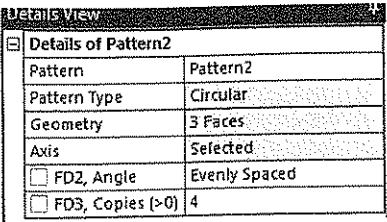

Figure 5-28 The Details View window displaying parameters for creating the circular pattern
11. Enter **4** in the **FD3, Copies (>0)** edit box. Figure 5-28 shows the **Details View** window with all parameters that you have specified.